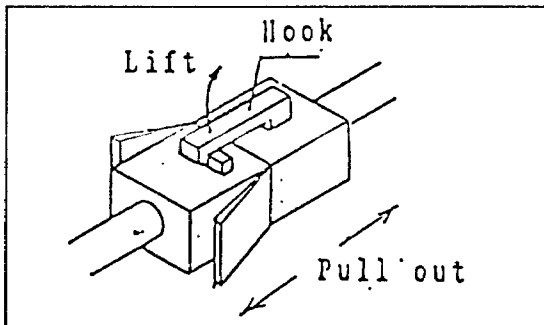

fig. 14
4. Remove the connector attached to the vacuum pump motor cord (part #19). Lift the tip of hook and open both sides of connector to remove the connector (fig. 14).